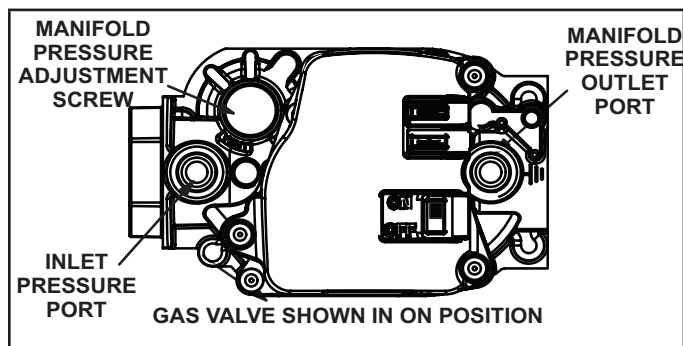

FIGURE 61
Gas Valve Operation (FIGURE 61)
- 6 - Move gas valve switch to OFF. See FIGURE 61.
- 8 - Move gas valve switch to ON. See FIGURE 61
When testing supply gas pressure, use the 1/8" N.P.T. plugged tap or pressure post located on the gas valve to facilitate test gauge connection. See FIGURE 61. Check gas line pressure with unit firing at maximum rate. Low pressure may result in erratic operation or underfire. High pressure can result in permanent damage to gas valve or overfire.